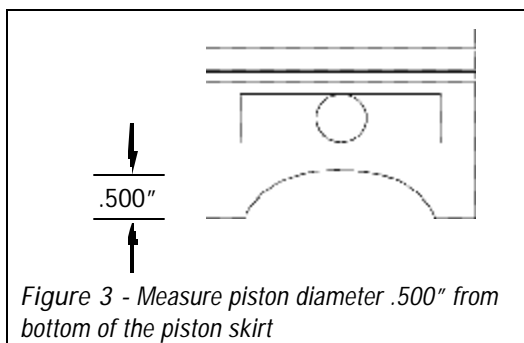

Figure 3 - Measure piston diameter .500" from bottom of the piston skirt
- IMPORTANT NOTE (Evolution® and Twin Cam®): The cylinder bore must be machined/honed to provide .0025" of piston-to-wall clearance. Measure the piston diameter at a point .500" up from the lower skirt (See Figure 3).